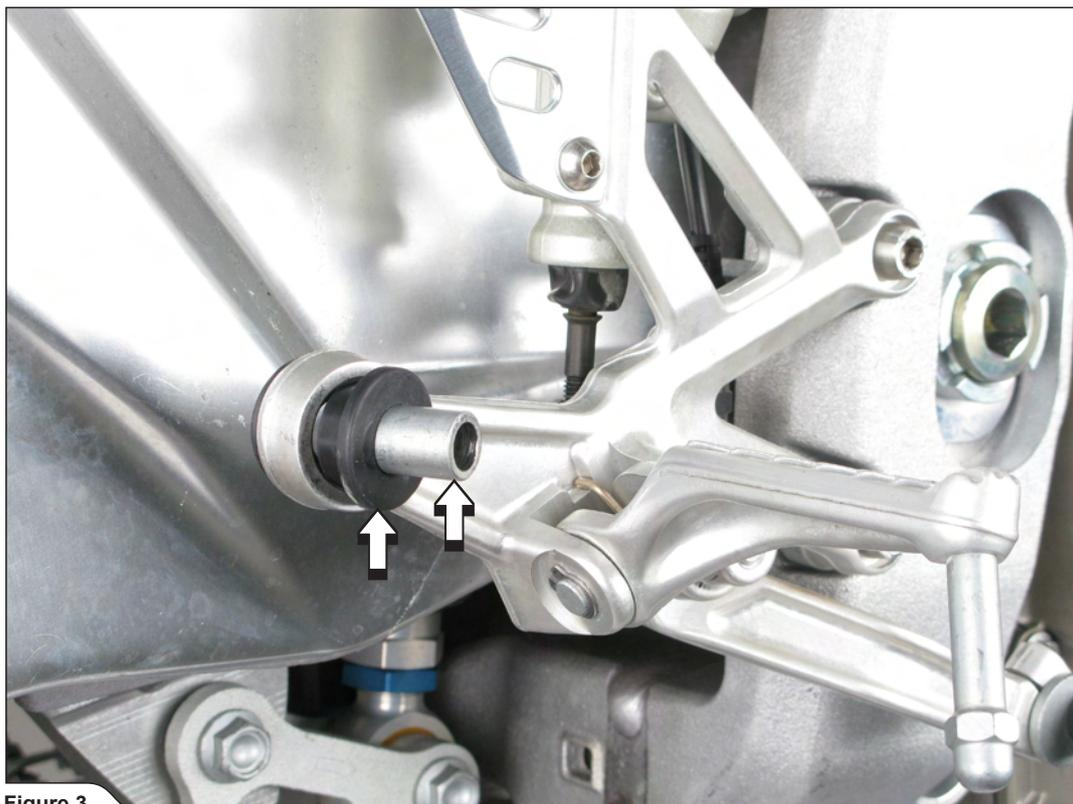

Figure 3
3. Remove the metal collar and rubber damper from the stock muffler hanging bracket (Figure 3, 4).